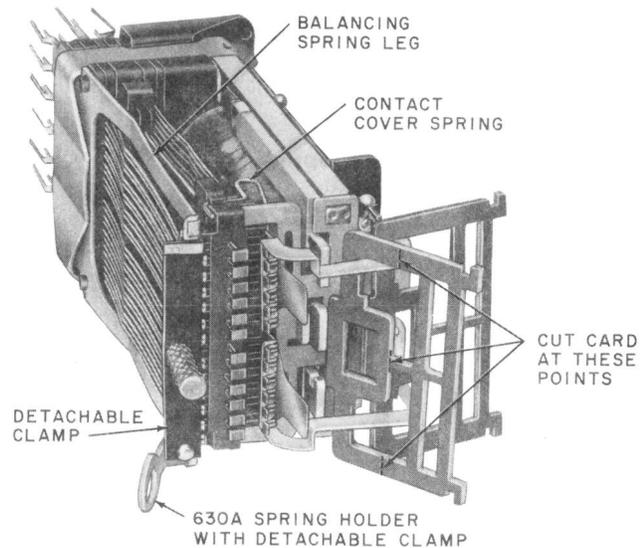

Fig. 26—12-Position Relay—Card Removal Tools Mounted in Place With Detachable Clamp on 630A Spring Holder
4.15 Hold the clamp associated with the spring holder by the handle with the notch at the bottom. Place the metal loop at the top of the clamp on the end of the spring holder that extends out above the make-contact springs. Move the clamp downward so that the notch in the bottom of the clamp engages the pin located adjacent to the handle on the spring holder. The clamp will hold the make-contact springs in their proper notches on the spring holder. (See Fig. 26.)
hangs freely on the 629A and B spring holders. Cut this card with the 5-inch diagonal pliers at the three points indicated in Fig. 26. Remove the portion of the card between the holders with the tweezers.